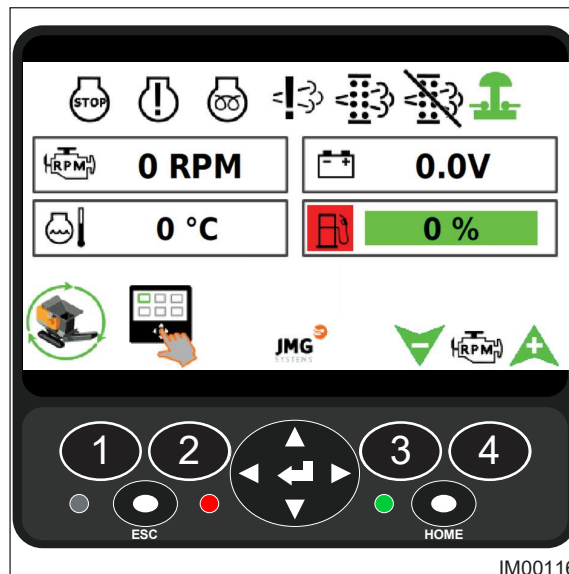

Fig: 10.3 - Home Screen
4. On the home screen, press the Menu Select button (Item 2, Fig: 10.3).